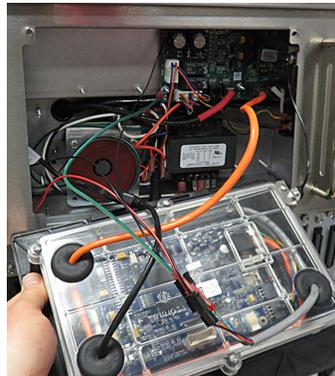

Figure 19
24. Gently lower the controller and hang by the tether (see Figure 19).